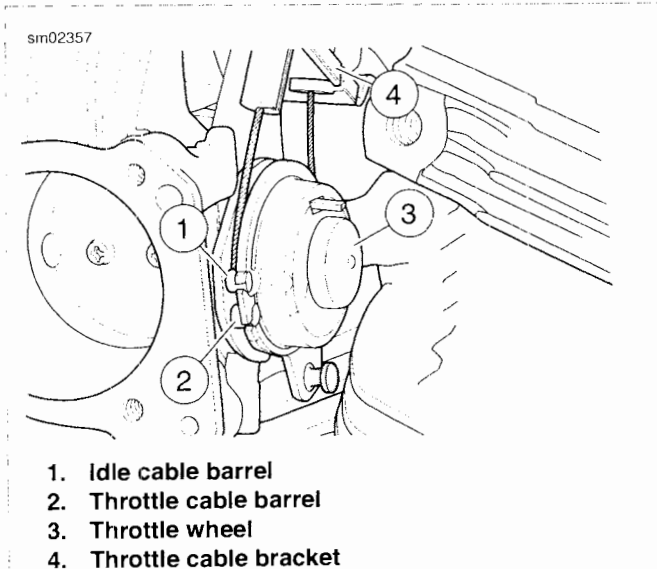

Figure 4-21. Throttle/Idle Cables
5. See Figure 4-21. Pull idle cable barrel (1) from upper hole in throttle wheel. Pull throttle cable barrel (2) from lower hole. Using slots, release idle and throttle cables from guides in throttle cable bracket.
4. See Figure 4-21. Install sleeve on throttle cable housing into cable guide at top of throttle cable bracket (4). Drawing throttle cable downward, fit barrel end (2) into lower hole in throttle wheel (3). Install sleeve and spring on idle cable housing into cable guide at bottom of throttle cable bracket inserting barrel end (1) into upper hole in throttle wheel.